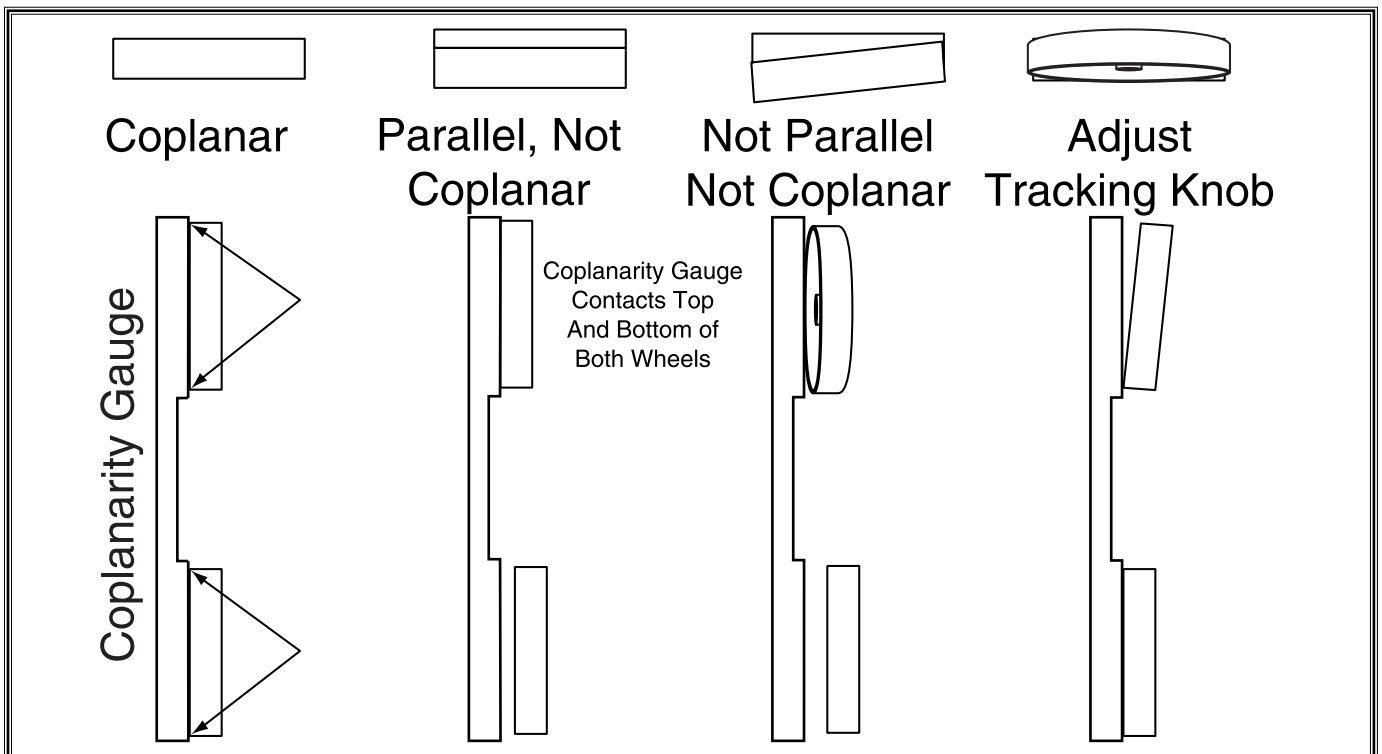

Figure 36. Coplanarity diagram.
8. Figure 36 shows the positions of the wheels when they are coplanar. When your wheels are coplanar, readjust the guide blocks and rear support bearings.